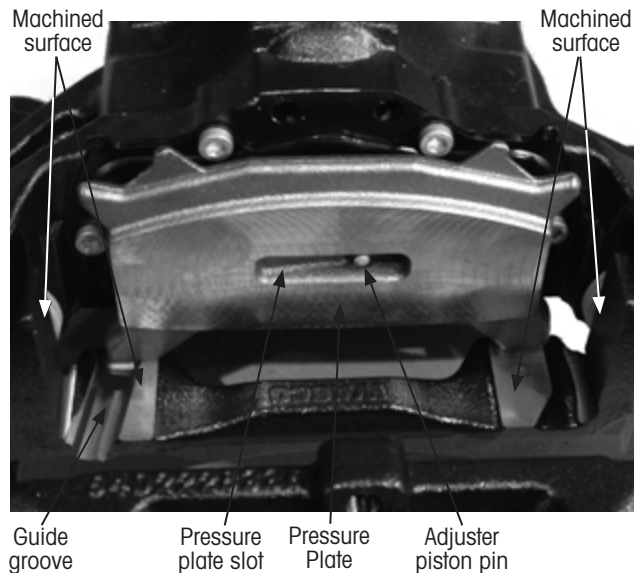

Figure 31: Installing pressure plate
NOTICE: The pressure plate (Figure 31) must always be placed correctly in the guide groove and is to entirely cover machined surfaces shown in (Figure 31). Otherwise the pressure plate could slide out of position.
2. **Insert** the pressure plate into the brake caliper (Figure 31).